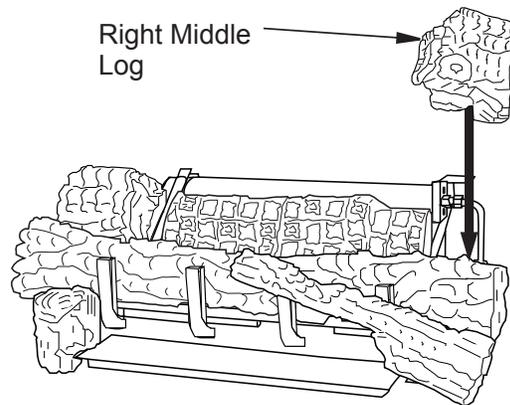

Figure 33 - Installing Right Middle Log
- The right middle log has a groove on the bottom to sit on the chassis and has to sit on the tab on the back of the right front. The right middle log should have a recess area that fits around the ramp log as shown in **Figure 33**.